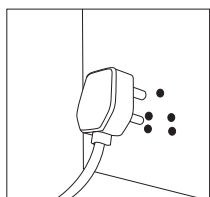

Fig. 9
1. Plug in the appliance, Fig. 9. Before plug in please ensure that the voltage must meet appliance indication on rating label.